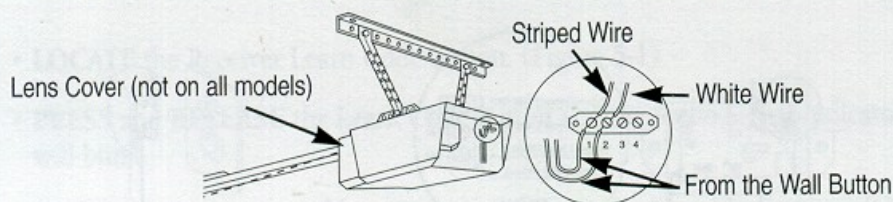

Figure 3-4
- **CONNECT** the WHITE Wire to one of the wall button terminals. (Figure 3-4)
- **CONNECT** the STRIPED Wire to the other wall button terminal. (Figure 3-4)